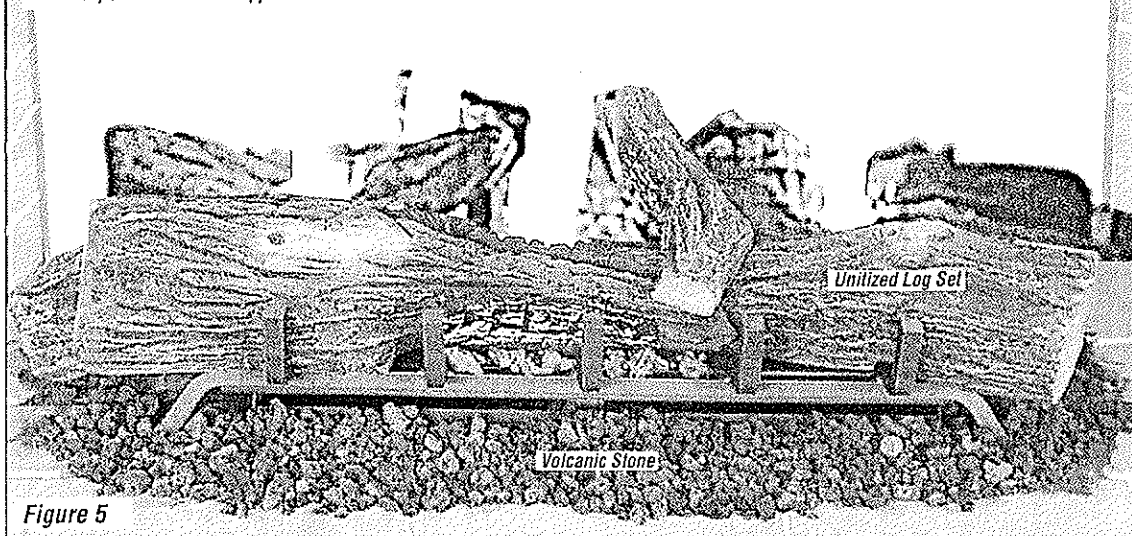

Figure 5
Ensure that the burner flame appearance resembles the flame shown in *Figure 5* and as described in *Flame Appearance and Sooting* on *Page 7*. The Homeowner must contact a qualified service technician at once if any abnormal condition is observed.
3. Allow the burner to operate for at least 15 minutes while observing the flame continuously to ensure that the proper flame appearance has been achieved (see **Figure 5**). If the following conditions are present, adjust accordingly.